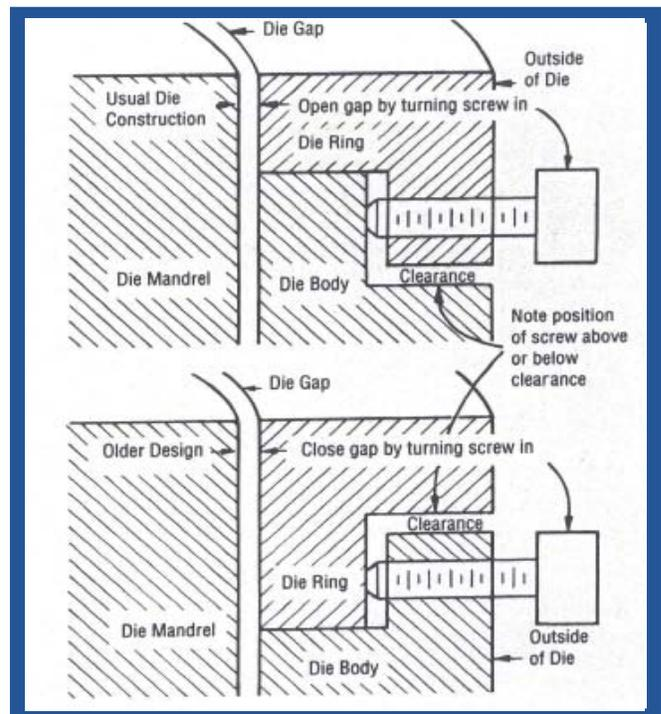

Figure 6
- Most dies currently in use are adjustable. **Figure 6** illustrates the two basic designs of adjustable dies and how they are identified: